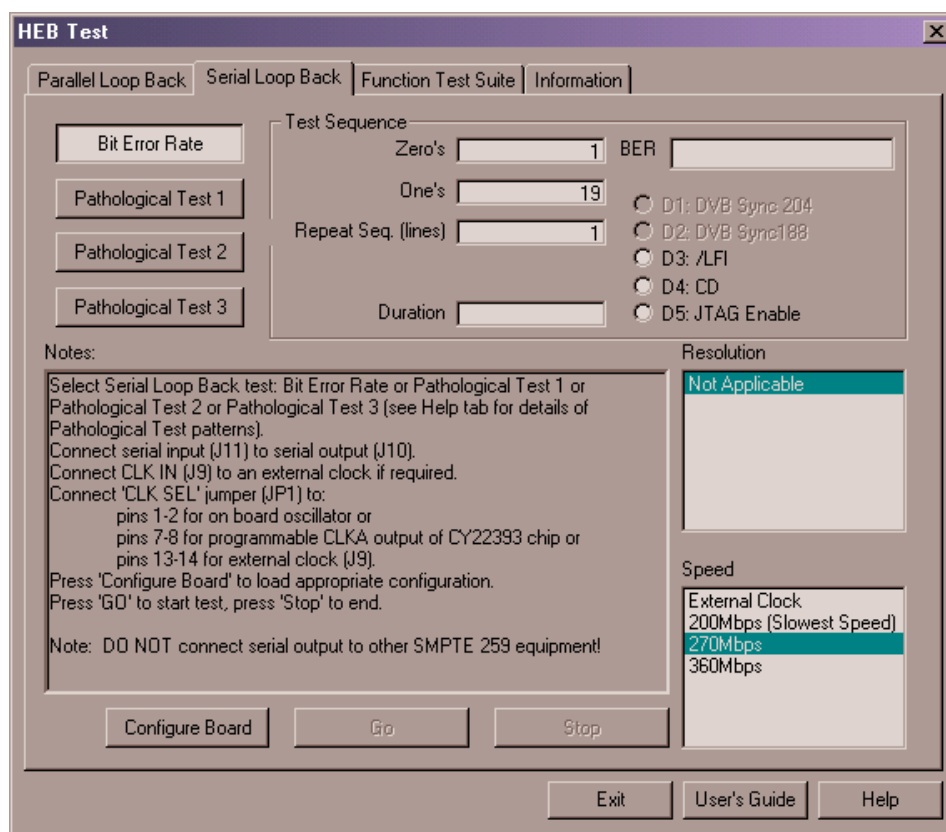

Figure 5-8. Serial Loop Back Test Window
The serial loop back test window of the GUI is shown in *Figure 5-8*. The different serial loop back test modes are described as follows:
- Click on the "Serial Loop Back" tab on the GUI test window as shown in Figure 5-8. Select the test that has to be performed by pressing the appropriate button. Bit Error Rate test is selected in Figure 5-8.